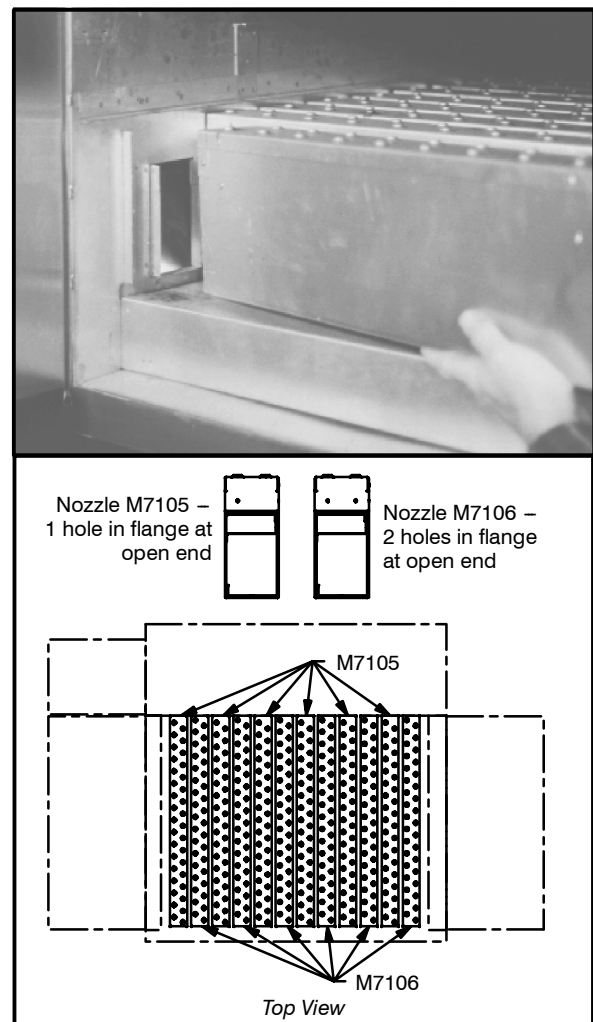

Figure 5
1. Install the nozzles from center of the oven working towards the ends. Make sure the bottom of the air nozzle fits into the slot in the nozzle support located at the front of the oven. See Figure 5 for correct nozzle location.